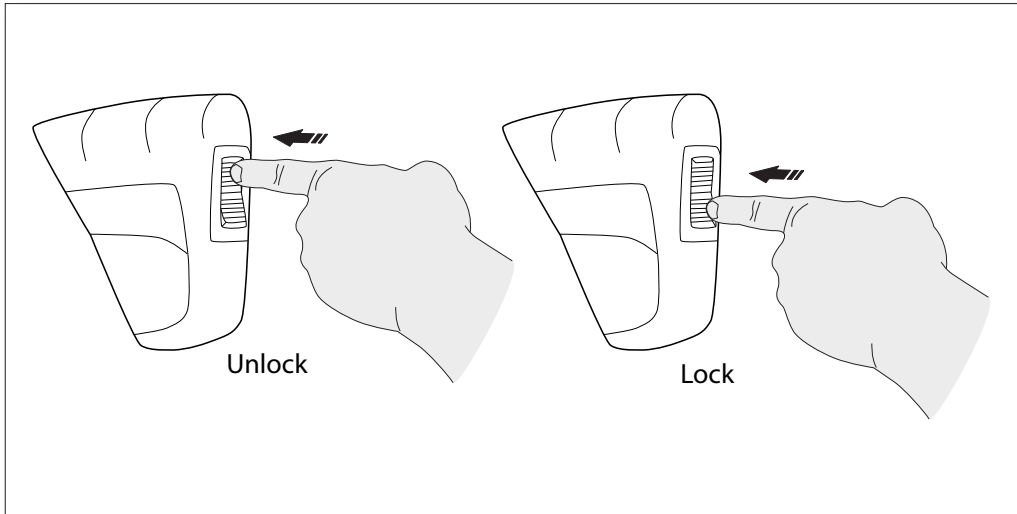

Fig. 7
- To lock the trigger of the spray gun point the gun away from you and press the lock button forward to the front of the gun, (**Fig. 7**), after doing so, squeeze or pull the trigger to make sure it is locked and will not move. Always leave lock button in lock position when not in use. This ensures the gun is in “safe” mode until it is ready for use. Press the lock button back to unlock.